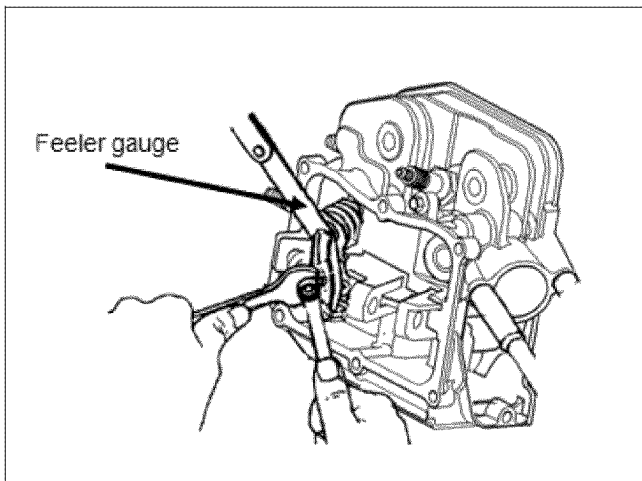

Figure 4-6. Valve Clearance Adjustment
1. Hold the rocker arm pivot with a wrench and loosen the pivot lock nut (Figure 4-6).